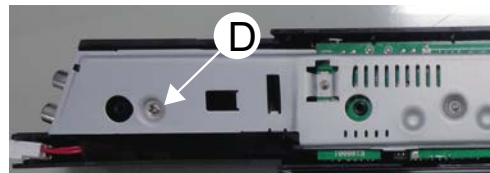
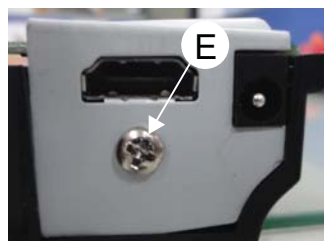

Figure 4
Figure 5
- 1) Loosen 2 screws "D" & "E" to remove the brakcet as shown in figure 4 and figure 5.